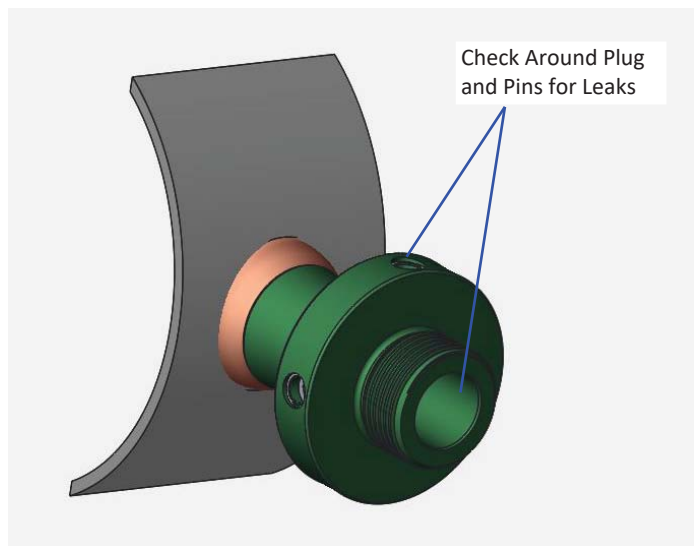

Fig. 4
6. Remove the protective cover. Check for leaks around the plug, and around the locking pins. If leaks are discovered, then put the cover back on, and perform 3-6 once more.(fig. 4). If the leaks cannot be stopped, then put the cover back on and tighten it. Leave the access fitting until a more thorough inspection can be performed during the next shut down of the system.